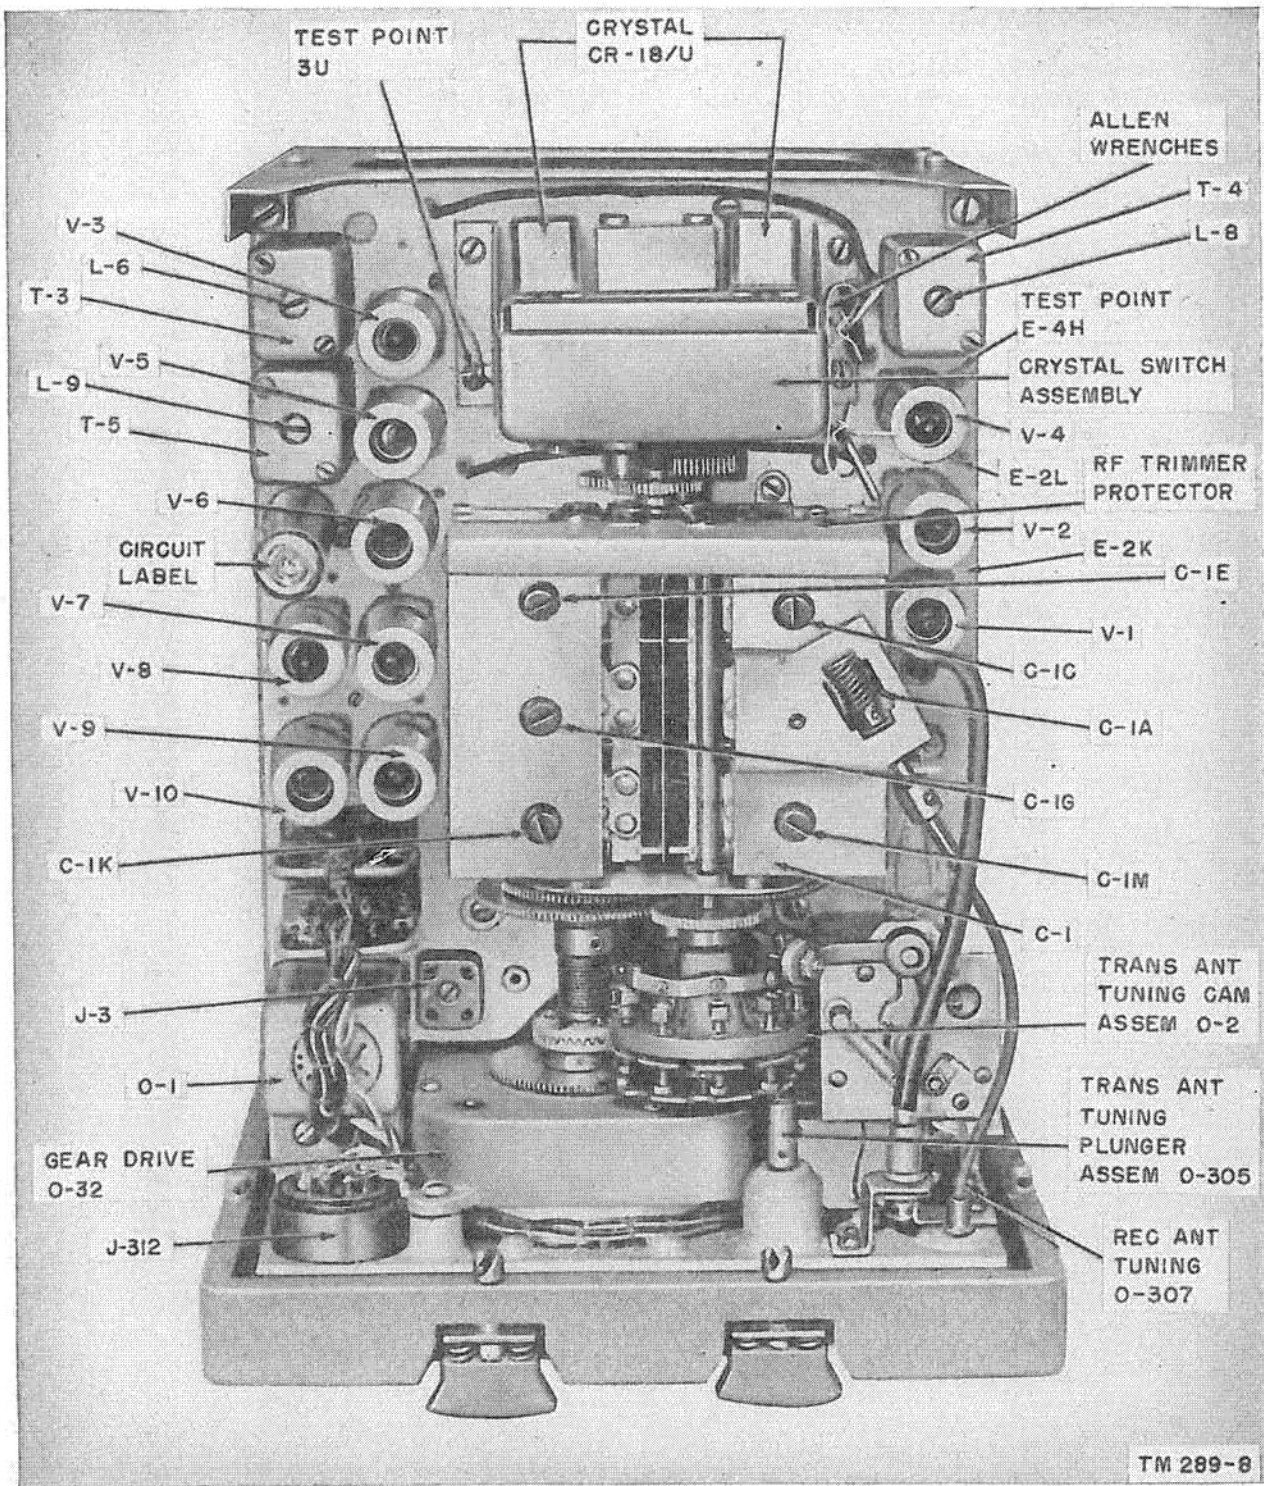
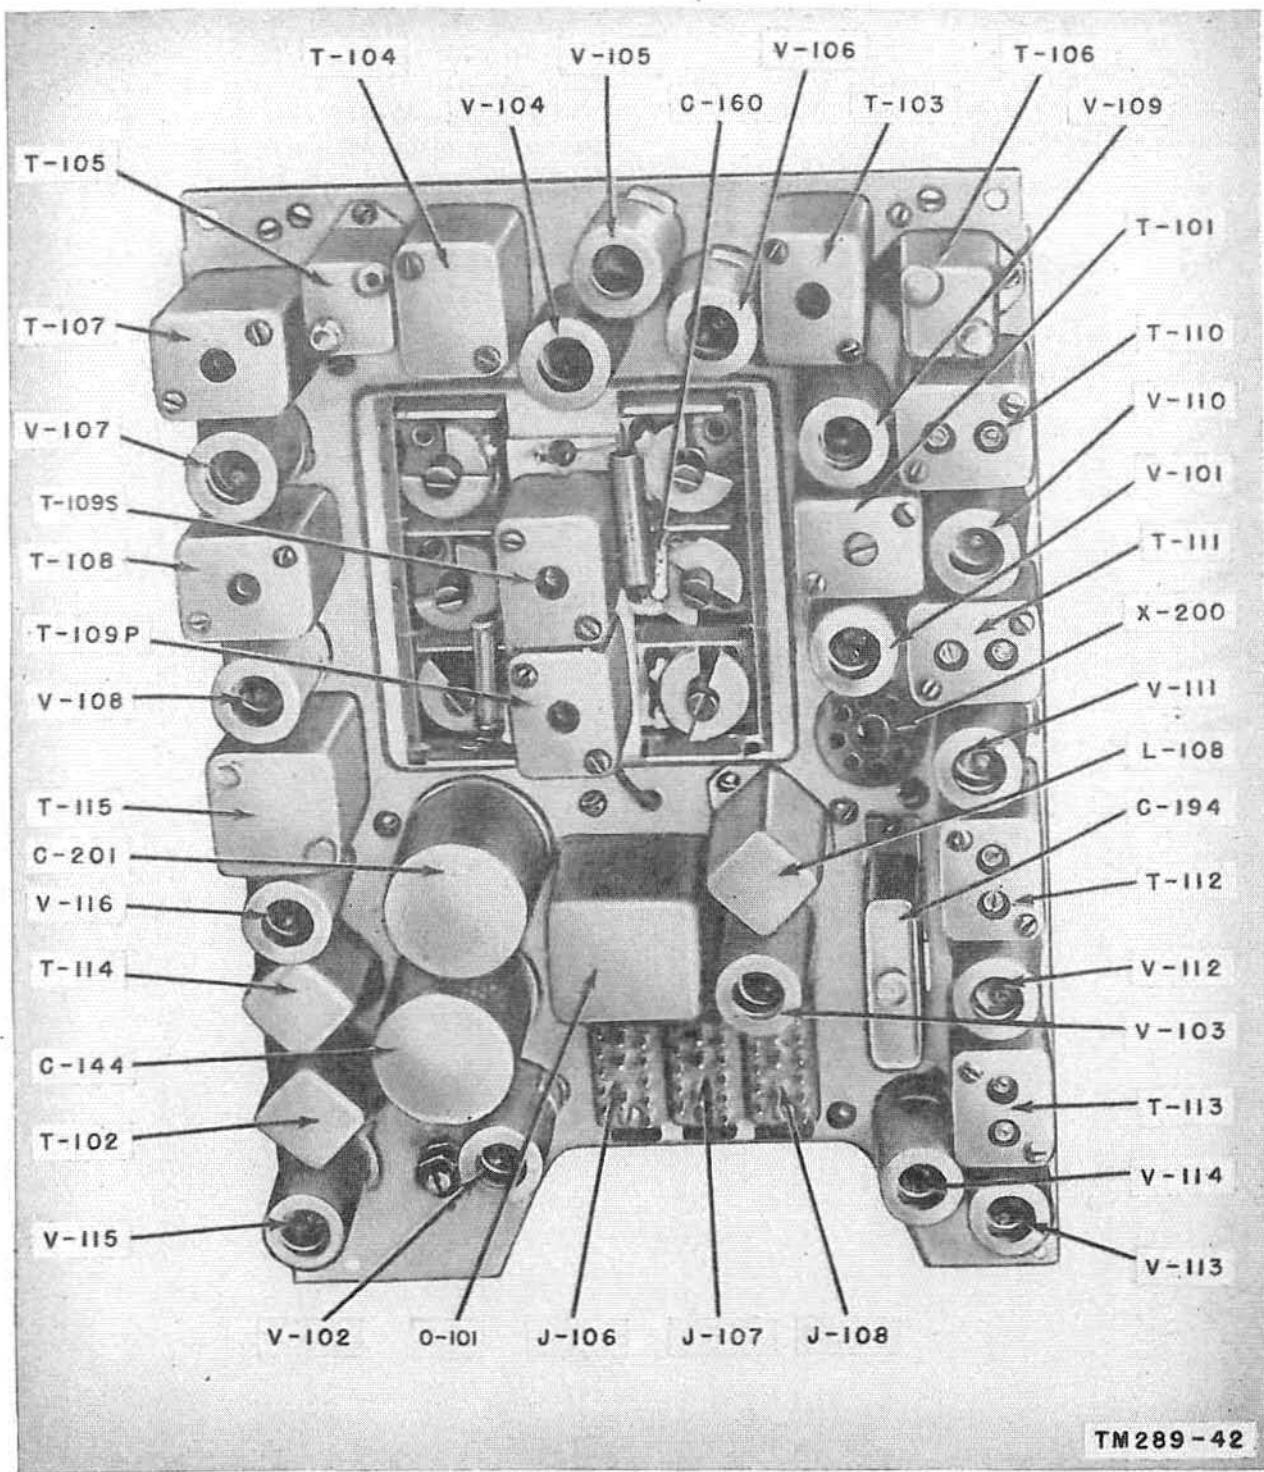

Figure 69. Set I, view of r-f chassis.
Figure 70. Set 1, view of i-f chassis.
a. Tubes V-1 through V-11 are mounted on the r-f chassis (fig. 69). Tubes V-101 through V-116 are mounted on the i-f chassis (fig. 70).